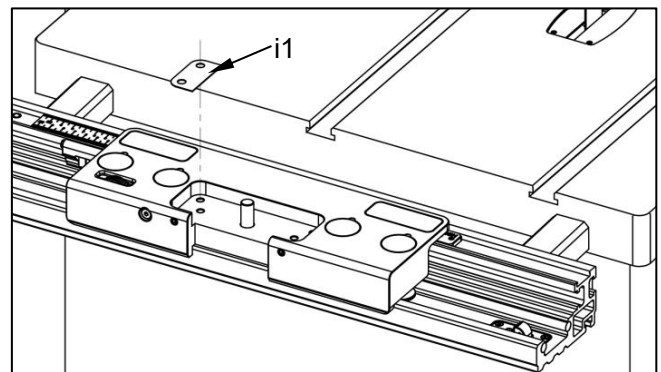

Fig. 25
- As shown in Fig. 25, place one or more brass shims on the left or right side as needed, aligning the holes in the shim with the holes in the slider assembly. (Four shims are included, each 0.05 mm thick. Multiple shims can be stacked. Each shim layer adjusts the vertical angle by approximately 0.05 mm.)